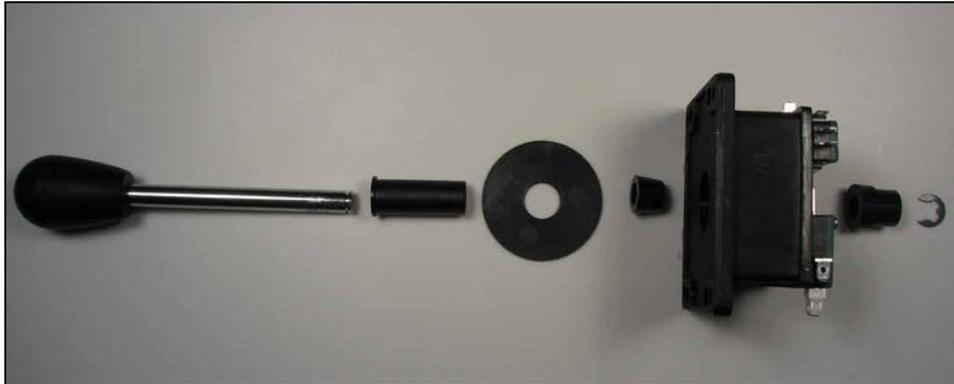

Figure 2: RA-Joystick-JS10 Joystick Assembly Order
- Assemble the RA-Joystick-JS10 joystick with the parts in the order as shown in Figure 2.